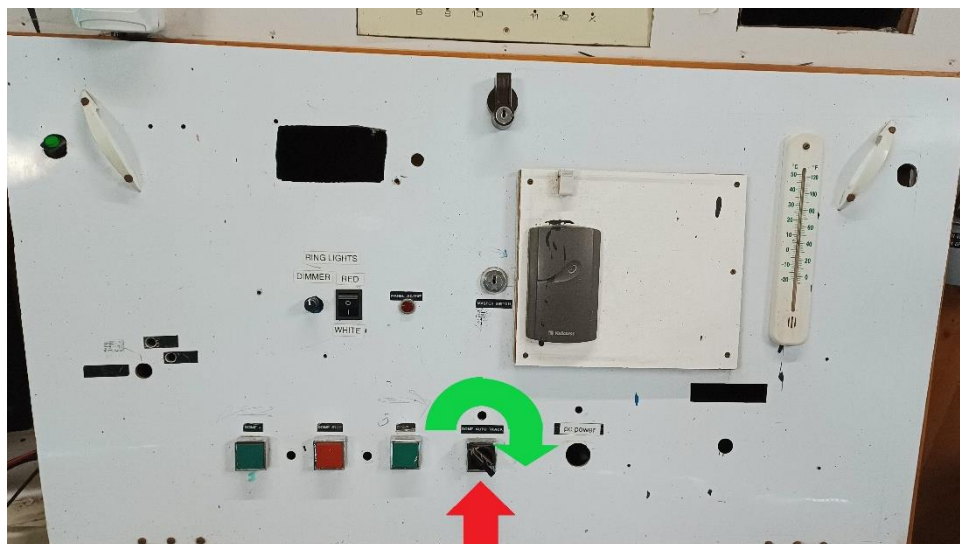

Fig. 20: Auto Dome/Telescope Sync Control Switch
12) To allow the dome to rotate in sync with the telescope, switch on the black rotary switch as shown in Fig. 20:
This maybe because the auto dome/telescope sync control switch on the main control panel has not been turned on. (See fig. 20)